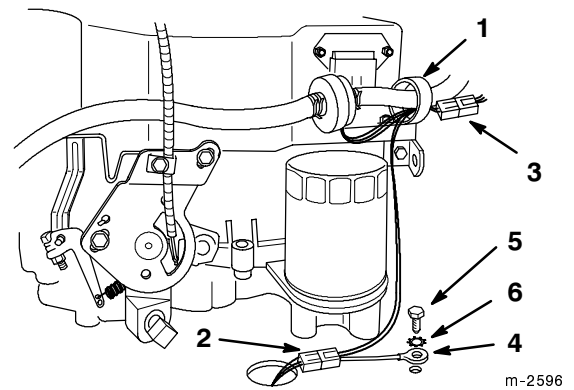

Figure 7
- Route regulator wires through J-clip on engine, and plug in clutch and engine in-line wire connectors (Fig. 7).
- Secure ground wire to one of three holes in frame, at rear of engine, with self-tapping screw and star washer (Fig. 7).
- Secure wire harness and throttle to upper handle with cable tie (Fig. 7)